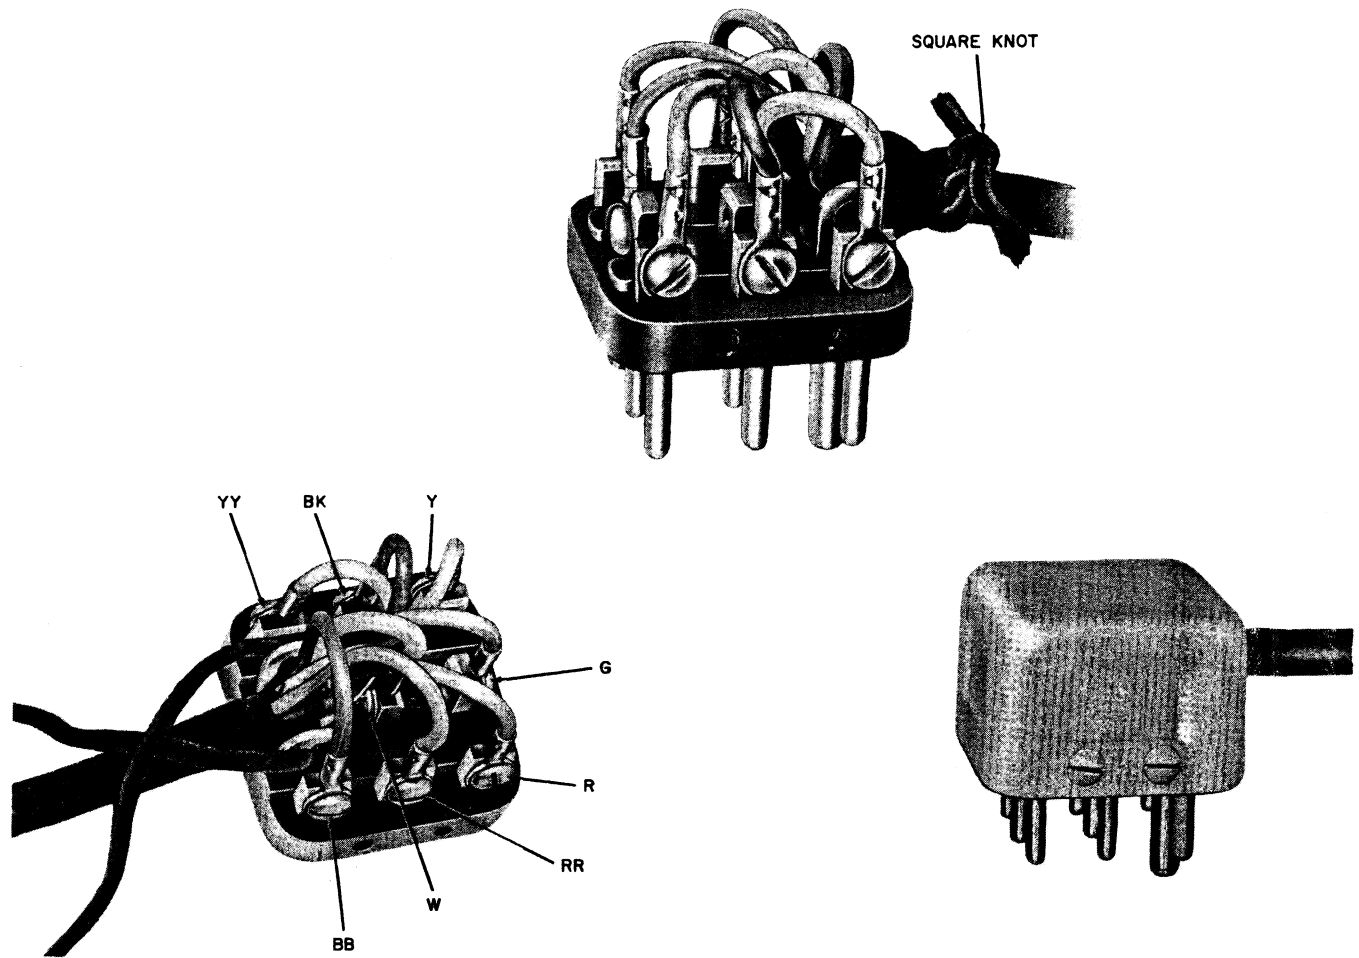

Fig. 1—274A Plug
- 2.02** The 274A plug (Fig. 1) is a two piece, 8-contact plug of molded plastic. It is intended for use with braided fabric covered mounting cords and is equipped with two eyes to which the braid is secured. It is available in color as shown in Table A.
- (1) Make connections as indicated by color designations stamped adjacent to terminals.
- (2) Connect cord spade tips as shown in Fig. 1.
- (3) Tie mounting cord securely.
- (4) Place shell on base and tighten screws.